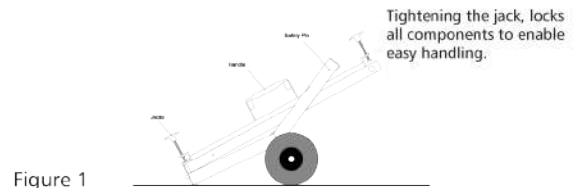
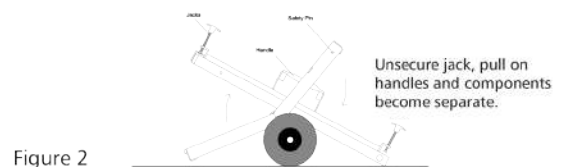

Figure 1
Figure 2
1. From storage mode, Wind the jack handle of the bearer beam anti clockwise (Figure 1). Pull the handle section back and lower it to the floor (Figure 2). Remove the bearer beam and place it over the lid.